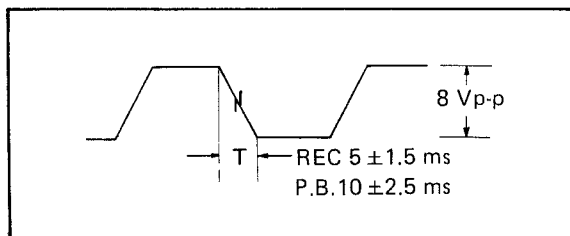

Fig. 6-18 Drum sampling waveform
2. Connect the oscilloscope to TP-7 on the servo circuit and verify the waveform during recording and playback as shown in Fig. 6-18.